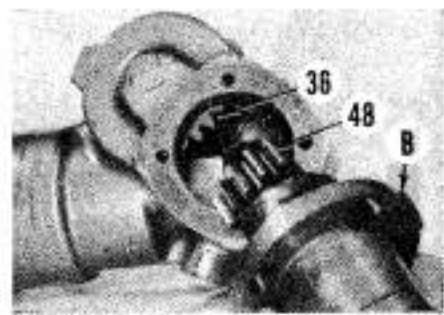

Fig. 17—The first tooth of the right pinion (48) should be meshed with first valley of left pinion (36). Identification boss on housing is shown at (B).
Turn the installed steering shaft (31) until the rack (32) is at bottom of travel, position the steering gear housing (34) as normally installed on the tractor and install the left pitman shaft and housing assembly. The flat identification boss on left housing should be down when installed. The marked third tooth on left pinion should be aligned with the center valley of the rack as shown in Fig. 16. Install retaining screws, then turn steering shaft until rack (32) is all the way up in housing. Align the first tooth on right pinion (48—Fig. 17) with first valley on left pinion (36) as shown. The identification boss (B) on right housing should be toward front as installed on tractor. After correct alignment is obtained, the right side pinion housing can be temporarily removed (while maintaining correct alignment) and housing filled through opening to capacity with Massey-Ferguson Permtran Oil or equivalent. Install the right pinion housing and right pitman shaft after filling with oil.